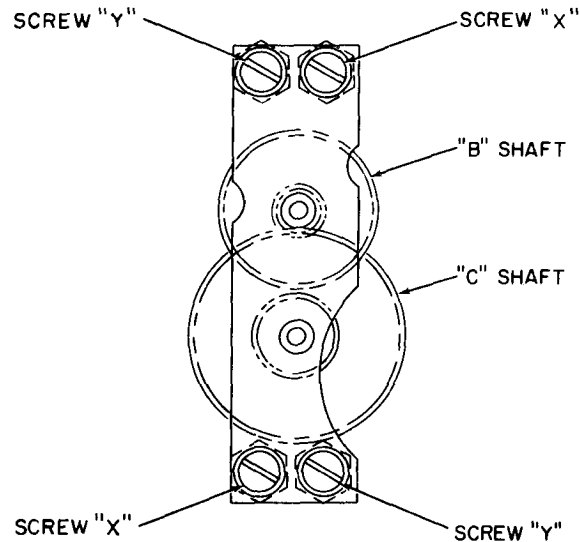

Figure 2-9. Speed Decreaser Adjustments.
(4) Assemble two bearings (66) to bearing plate (62), and carefully align bearing plate (62) with previously assembled speed de- creaser assembled speed de- creaser assembly components. Attach bearing plate (62) and entire speed de- creaser assembly to servo plate assembly (67), using two screws (64) and two lockwashers (65). Thread screws (63 and 64) into gear plate posts (59). Do not tighten screws.
(5) Refer to figure 2-5 and tighten all four screws (56). Now tighten screws (64). (Screws (64) are designated "Y" in fig. 2-9). Check that gears (60 and 61, fig. 2-5) can run freely. Do not tighten screws (63) (Screws 63 are designated "X" in fig. 2-9). Screws (63) should be engaged for. at least 1/16" of threads.
(6) With "B" shaft assembly (fig. 2-9) locked, shaft "C" should be free and non-sticking. Replace gear clusters if backlash is excessive.
(7) Install slip ring (49) on gear shaft assembly (50) and install gear shaft assembly using four screws (52), flat washer (53), and pin (51).
(8) Install insulator (44), Install trun- nion block (45) using four screws (46), four washers (47), and four nuts (48),
(9) Install terminal board (40) using two screws (41), two washers (42) and two washers (43). This completes the yoke assembly.
(10) Install spur gear (39) and tighten setscrew (11). Load spur gear by rotating gear approximately three teeth and then inserting a locking pin. (This pin is temporarily installed.)
(11) Install bearings (38) and (29).
(12) Install bearing housing (33) using screws (34) and (35), two screws (36), and lock- washers (37).
(13) Install yoke (54).
(14) Install shims (32) and thrust washer (31). Secure with retaining ring (30).
(15) Remove locking pin from spur gear (39).
(16) Referring to figures 2-5 and 2-9, position the speed de- creaser so that there is min- imum backlash or binding of speed de- creaser gears (60 and 61, fig. 2-5). Then tighten both "X" screws (fig. 2-9). Again check gears for minimum backlash and binding. If necessary, loosen "X" screws and repeat adjustment to ob- tain required results.
(2) Install four screws (42) and lockwashers (43) in bearing plate (41) and thread screws into four gear plate posts (38). Do not tighten screws (42).
(3) Install gear clusters (39 and 40).
(4) Assemble two bearings (37) to bearing plate (38), and carefully align bearing plate (33) with previously assembled speed de- creaser assembly components. Attach bearing plate (33) using two screws (34), two screws (35) and four lockwashers (36). Thread screws (34 and 35) into gear plate posts (38). Do not tighten screws
(5) Refer to figure 2-6 and tighten all four screws (42). Now tighten two screws (34). (Screws 34 are designated "X" in figure 2-9.) Check that gears (39 and 40, fig. 2-6), can run freely. Do not fully tighten screws (35). (Screws (35) are designated "Y" in figure 2-9.) Screws (35) should be engaged for at least 1/16" of threads.